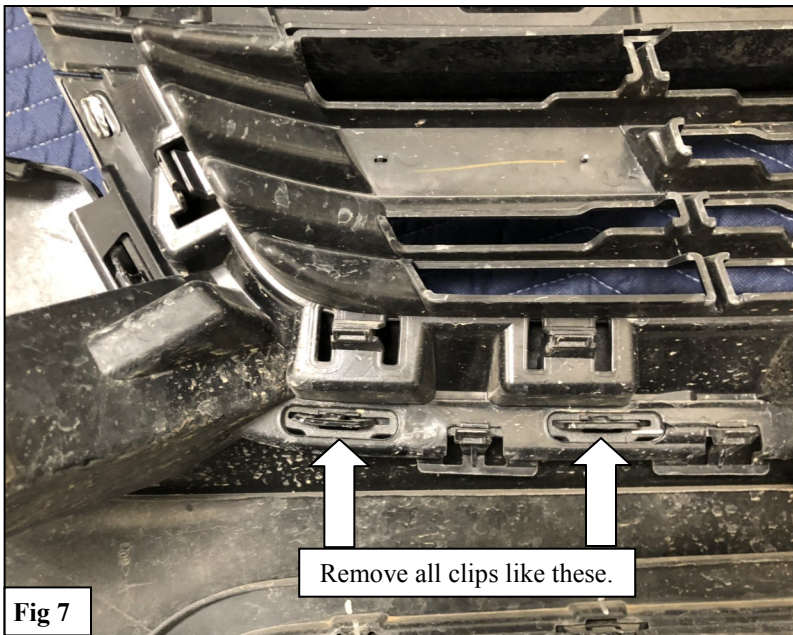

Fig 7
9. Remove the grille from the grille/bumper assembly. See **Figure 7**.